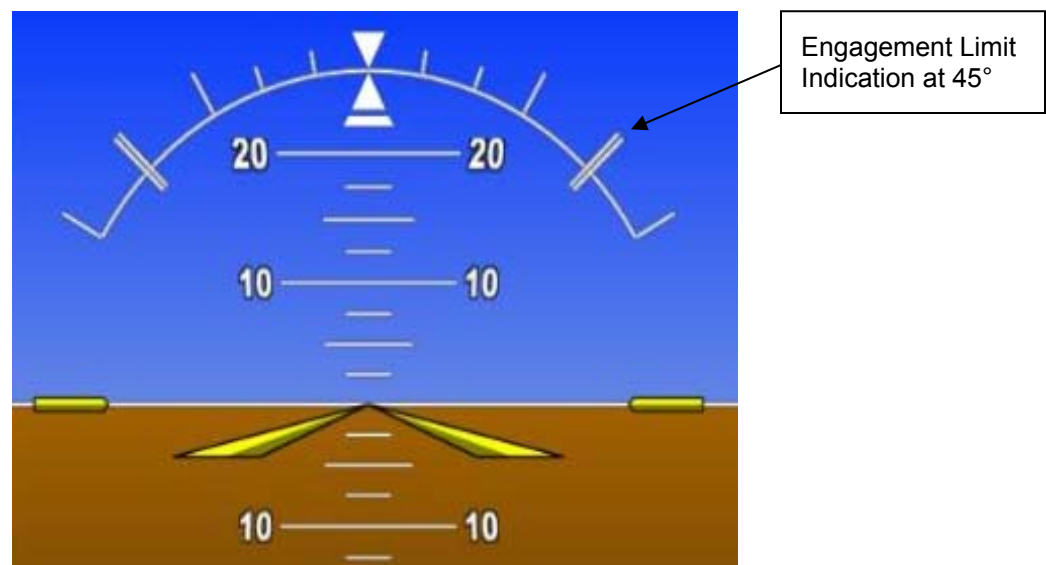

Figure 16 – Nominal Roll Attitude ESP Engagement Limit Indications
PFD display symbology implemented for ESP is illustrated in Figures 16 through 19. All other indications on the GDU displayed in the examples are to provide position reference for the ESP system symbology. The values indicated are not representative of a condition required to activate ESP.
- The engagement and disengagement attitude limits are displayed with double hash marks on the roll indicator depending on the airplane attitude and whether or not ESP is active in roll. When ESP is inactive (roll attitude within nominal limits) only the engagement limit indications are displayed in order to reduce clutter on the roll indicator. See Figure 16 for an example of the ESP engagement limit indications.